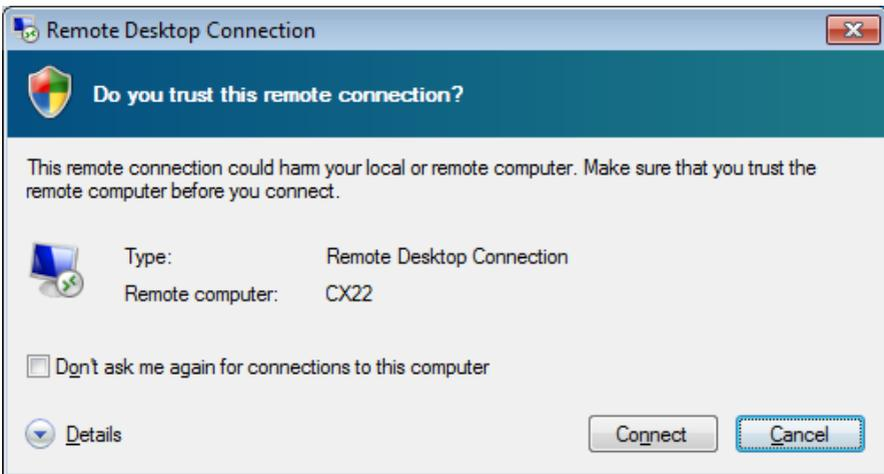

Fig. 6.2 Windows-dialog: setting up the connection
- ▶ If Windows asks whether the connection should be set up to this remote computer, set up the connection (*Fig. 6.2*). We recommend activating the option **Don't ask me again for connections to this computer**.